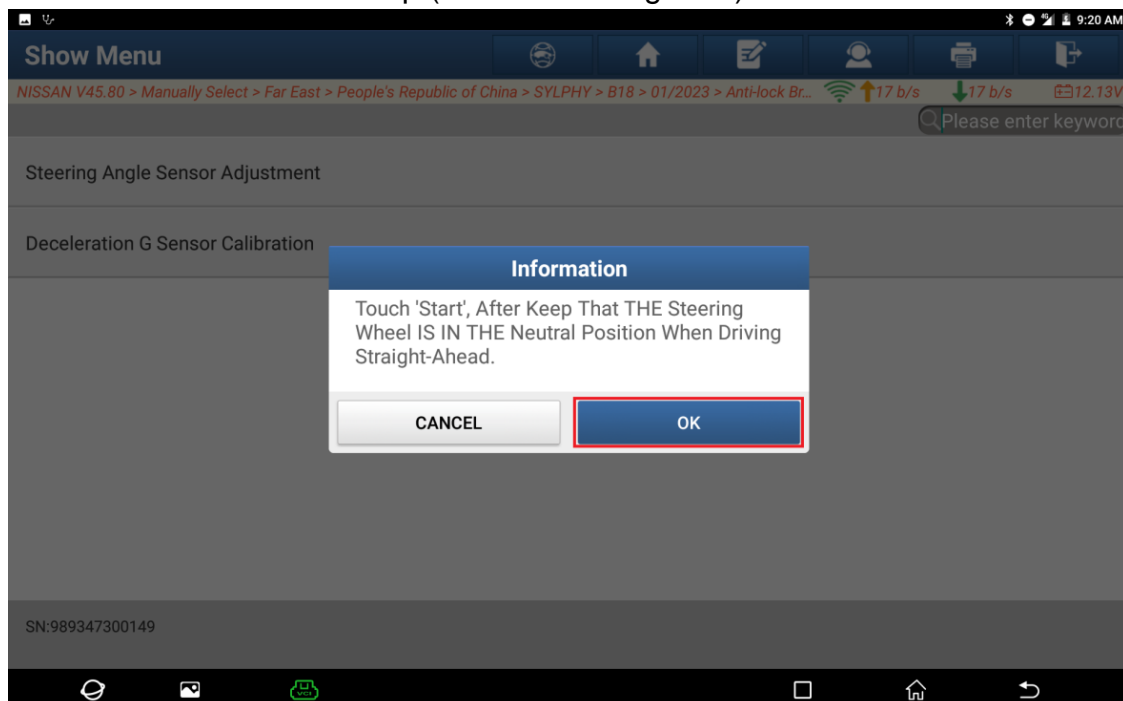

Figure 6
6. If the steering wheel keeps in the middle position and drives straight, click OK to enter the next step (as shown in Figure 6).